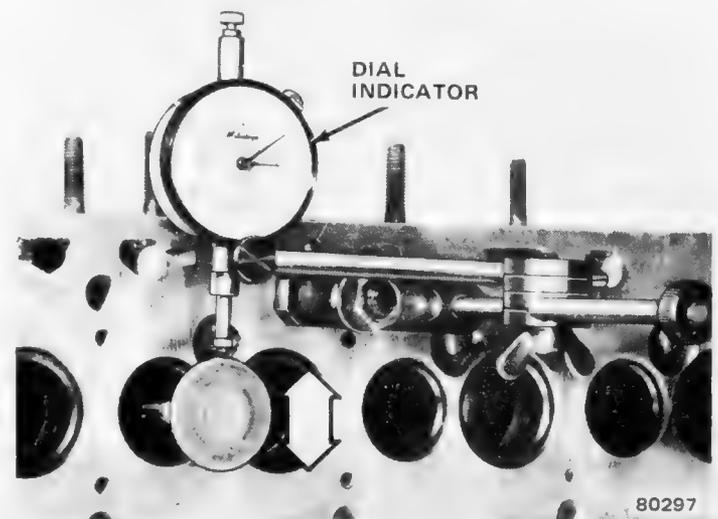

Fig. 1B-25 Checking Valve Stem Clearance with Dial Indicator
- Use a dial indicator to measure lateral movement of valve stem with valve installed in guide and even with end of guide (fig. 1B-25). Dial indicator reading should not exceed 0.8 (0.031 inch) for intake valves and 1.0 mm (0.039 inch) for exhaust valves.